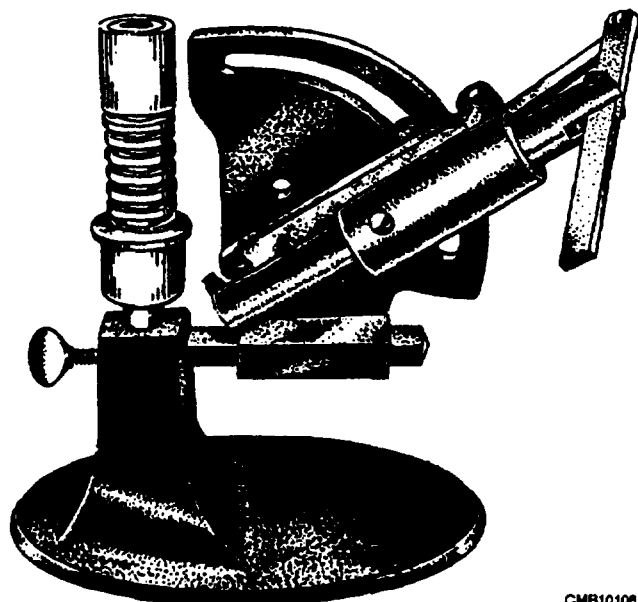

Figure 3-57.—Stone dresser.
- **DRESS THE STONE** by using a diamond cutter to true stone surface (fig. 3-57). Do this before grinding the valves. A diamond-tipped cutting attachment is provided with the machine for truing the stone. Follow the equipment manufacturer's instructions for that specific piece equipment.